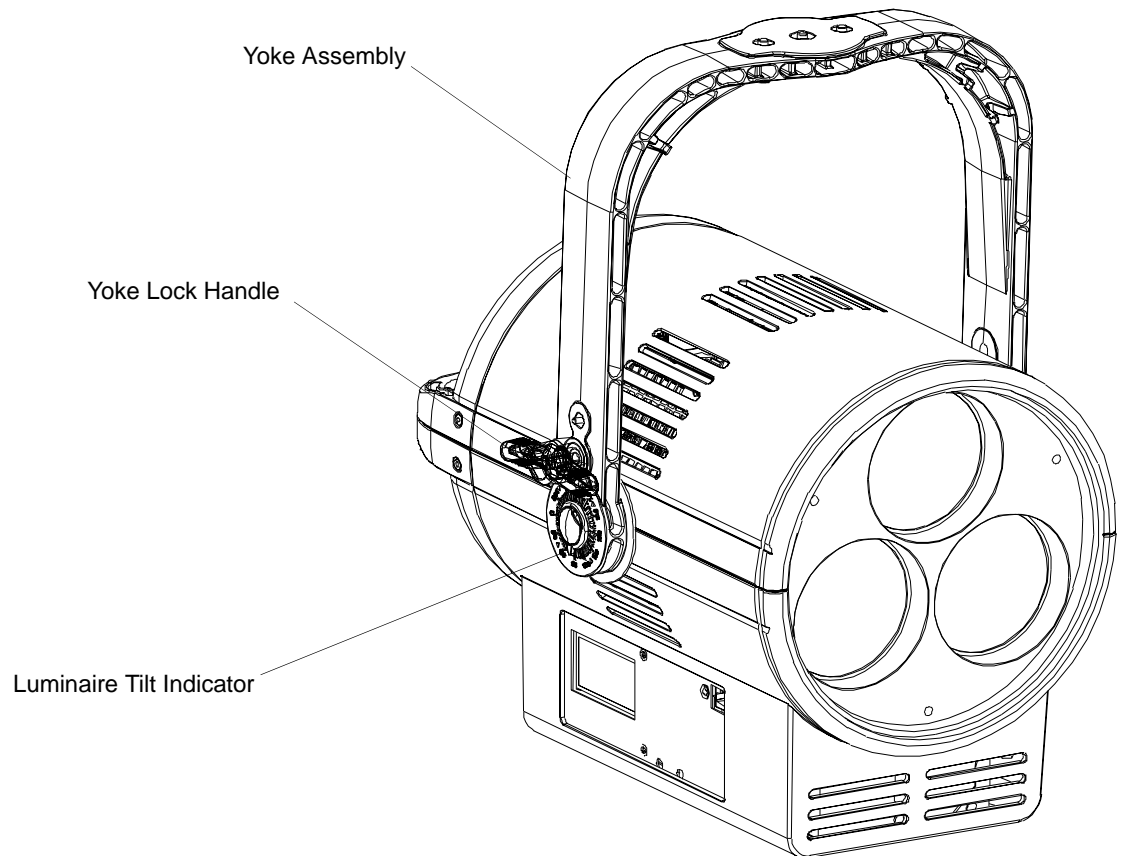

Figure 1: PL3 Yoke Lock Handle
Step 1. Locate yoke lock handle, as illustrated in **Figure 1**, on side of yoke assembly.